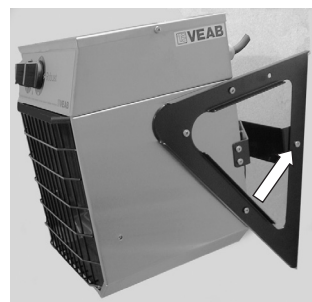

Fig 3
1. Undo the two screws in the bracket and holder, see fig 3.